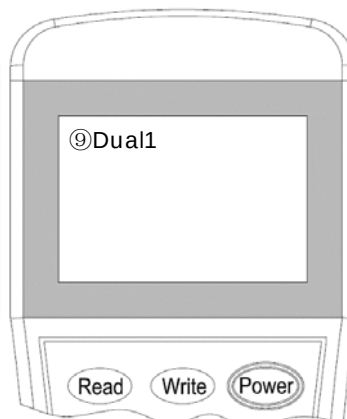

Fig.8 Address setting
3. Exit the programming tool to the main menu and then press button **"Write"** or **"2"** to set address. Input the desired device address value from 1 to 254 and then press **"Write"** to save the new address, as shown in Figure 8.